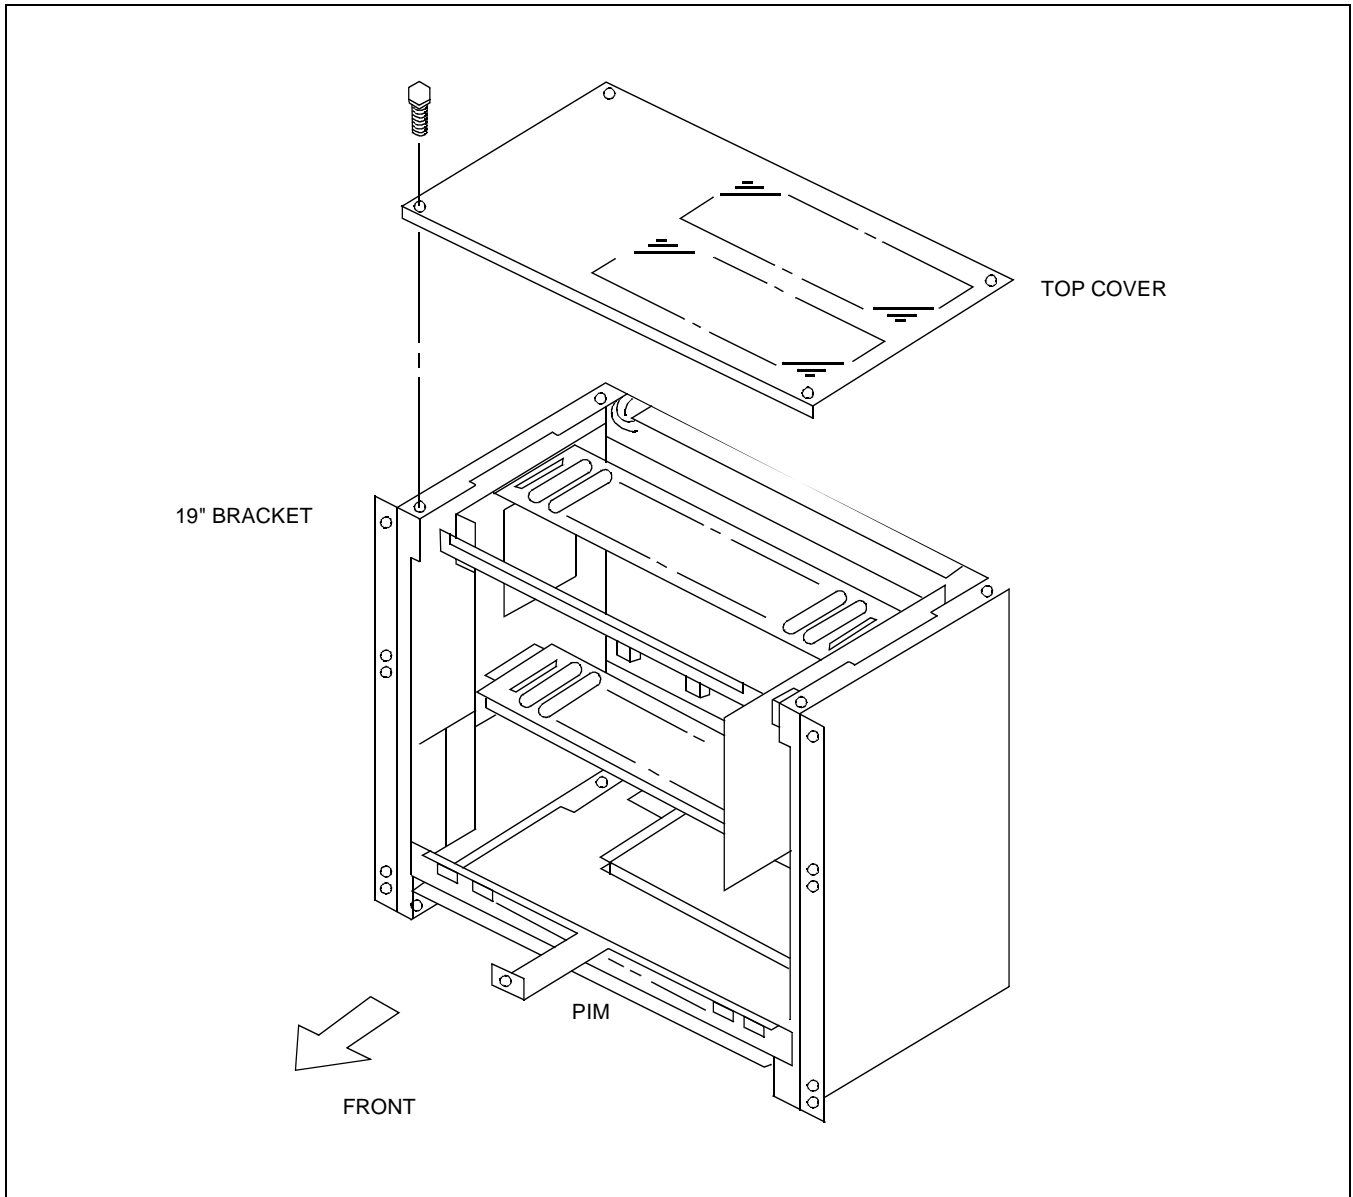

Figure 003-27 Mounting of the TOP COVER
- (4) Position the TOP COVER on the top PIM, and connect them with 4 screws (provided) as shown in Figure 003-27.